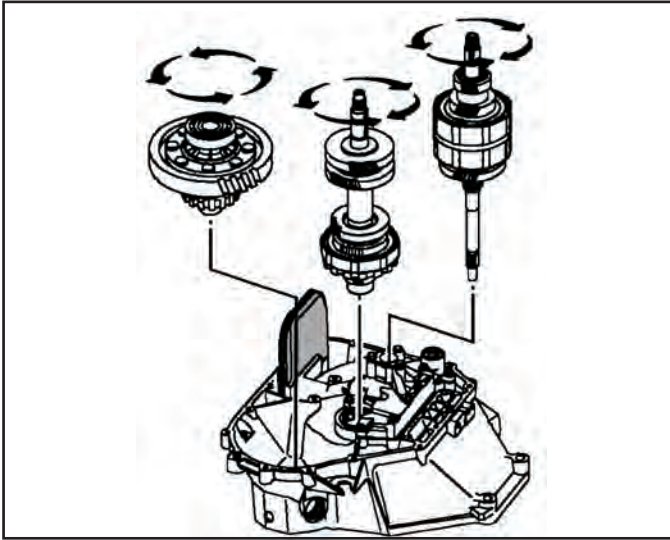

Figure 73
23. Lift the input shaft, output shaft and differential assembly out of the converter housing by grabbing the ends of both shafts and have an assistant lift the differential while lifting (See Figure 73).